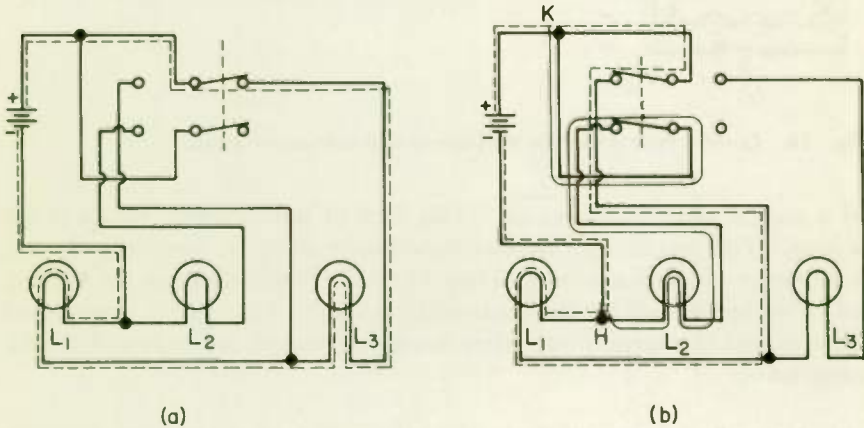

Fig. 15
5. (a) L_1 and L_3 will be on ... See Fig. 15(a) for the current path. Note that the
path shown by the dashed line is the only possible way to trace around the circuit from negative battery terminal to positive terminal. (b) Series (c) L_1 and L_2 will be on ... See Fig. 15(b) for current paths. Tracing from the negative battery terminal, upon reaching point H , there are two different paths we can follow that will bring us back to K and the positive battery terminal. One path is shown by the dashed line and the other by the solid line. (d) Parallel